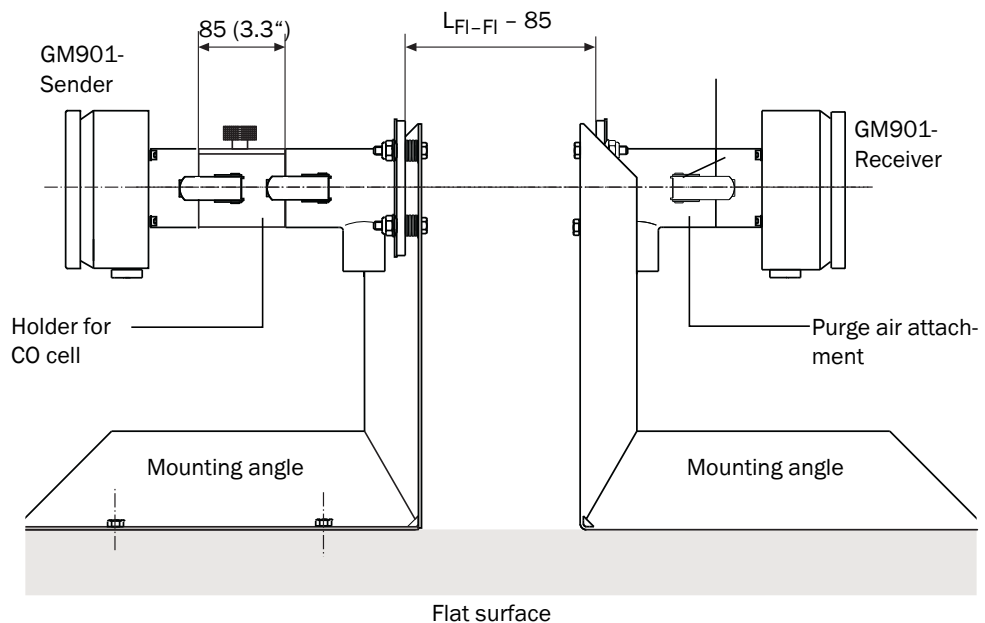

Fig. 26 Zero-point comparison path of the GM901
- ▶ Adjust the mounting bracket to the flange – flange dimension of the duct measuring distance as shown in *Fig. 26*; the distances from the cell bracket (85 mm/3.3 in) and aperture between the purge-air flange and flange with tube are already taken into account.